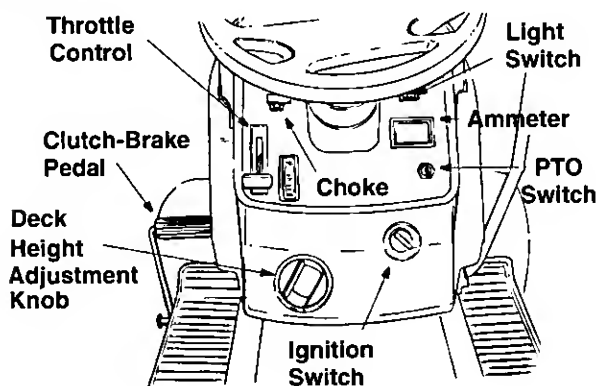

Figure 10
The ignition switch is located on the dashboard. Turn the key to the START position to start the engine. When the engine is running, leave the key in the ON position. To stop the engine, turn the key to the OFF position. See Figure 10.
The throttle control is located on the dashboard and is used to regulate the engine speed. To get maximum efficiency from cutting, the throttle should be in the **FAST** position when operating the mower. See Figure 10.
The choke control is located on the left side of the dashboard and is operated manually. Details for the choke operation are covered in the separate engine manual packed with your unit. See Figure 10.
The head lamps are operated by pushing the light switch located on the dashboard. The head lamps will only operate when the engine is running. See Figure 10.
The ammeter registers the rate of battery charge or discharge. The ammeter will register on the discharging side with starting the engine. It should register on the opposite side (charging) when the engine is running in the fast position until the battery is completely charged. With a fully charged battery or with the engine idling, the ammeter will not show a charge. See Figure 10.
The clutch-brake pedal is located on the left side of the tractor. See Figure 10. Depressing the pedal returns the drive unit to neutral (N) and applies the brake.